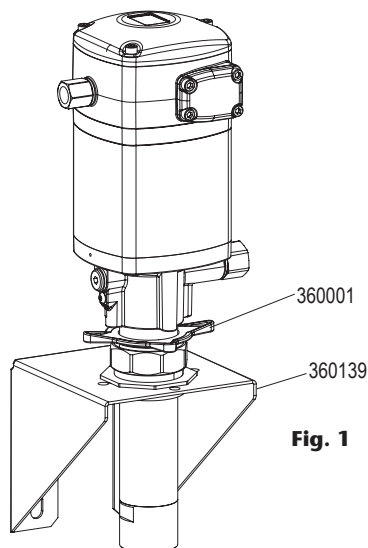

Fig. 1
- Wall mounting with bung adapter. Insert the pump through the wall bracket 360139 and attach it with the bung adapter 360001 (fig. 1).